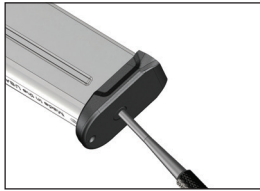

Figure 29
1. Using a punch, depress the locking plate located in the floorplate and hold it there (see Figure 29).